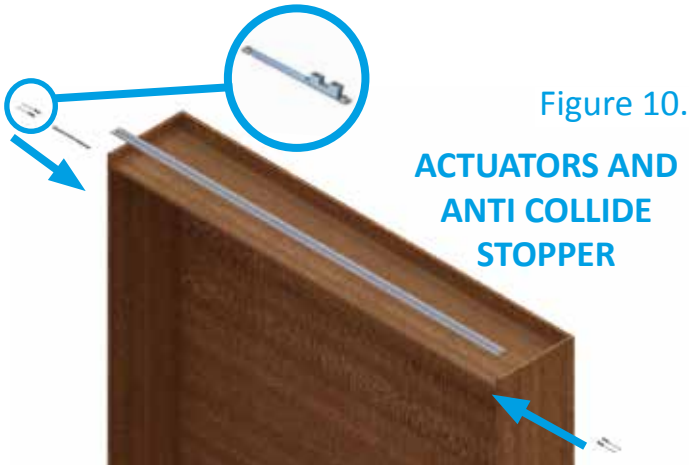

Figure 10.
1. Arrange the top actuators so that the arrows are facing upwards and inwards as guided in **Figure 10**. Slide the top damper stoppers into the top track.